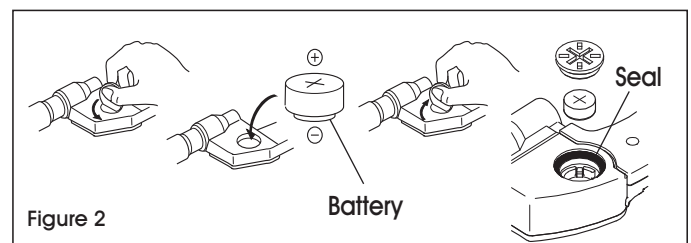

Figure 2
- Install the supplied battery by referring to the figure below. (See Figure 2)